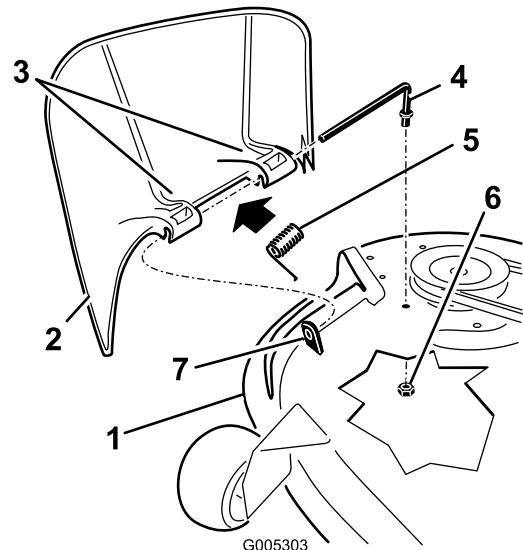

Figure 54
1. Locate items shown in Figure 54.
2. Remove the nut (3/8 inch) from the rod under the mower (Figure 54).
3. Slide the rod out of the short stand-off, spring, and grass deflector (Figure 54). Remove the damaged or worn grass deflector.
4. Replace the grass deflector (Figure 54).
- Place the spring on the rod, with end wires down, and between the grass deflector brackets. Slide rod through second grass deflector bracket (Figure 54).
- Insert rod at front of grass deflector into short stand-off on deck. Secure rear end of rod into the mower with a nut (3/8 inch) (Figure 54).